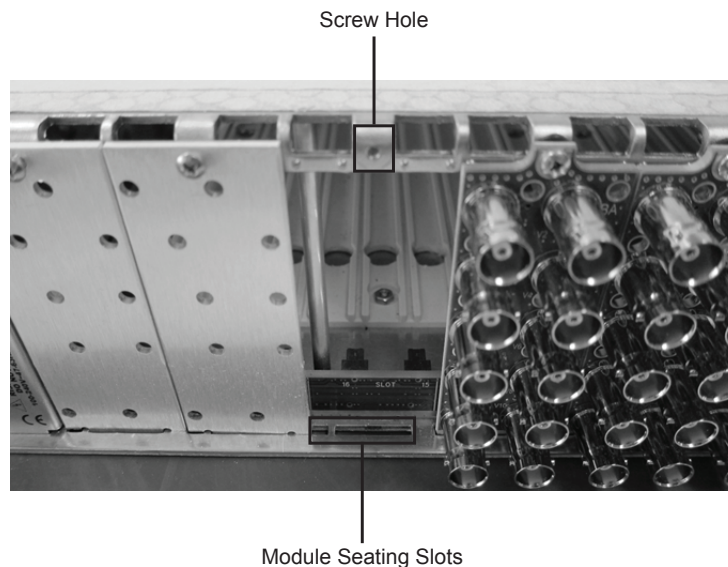

Figure 2.1 *Rear Module Installation in an OG3-FR Series Frame (Cards not shown)*
4. As shown in **Figure 2.1**, seat the bottom of the rear module in the seating slot at the base of the frame's back plane.